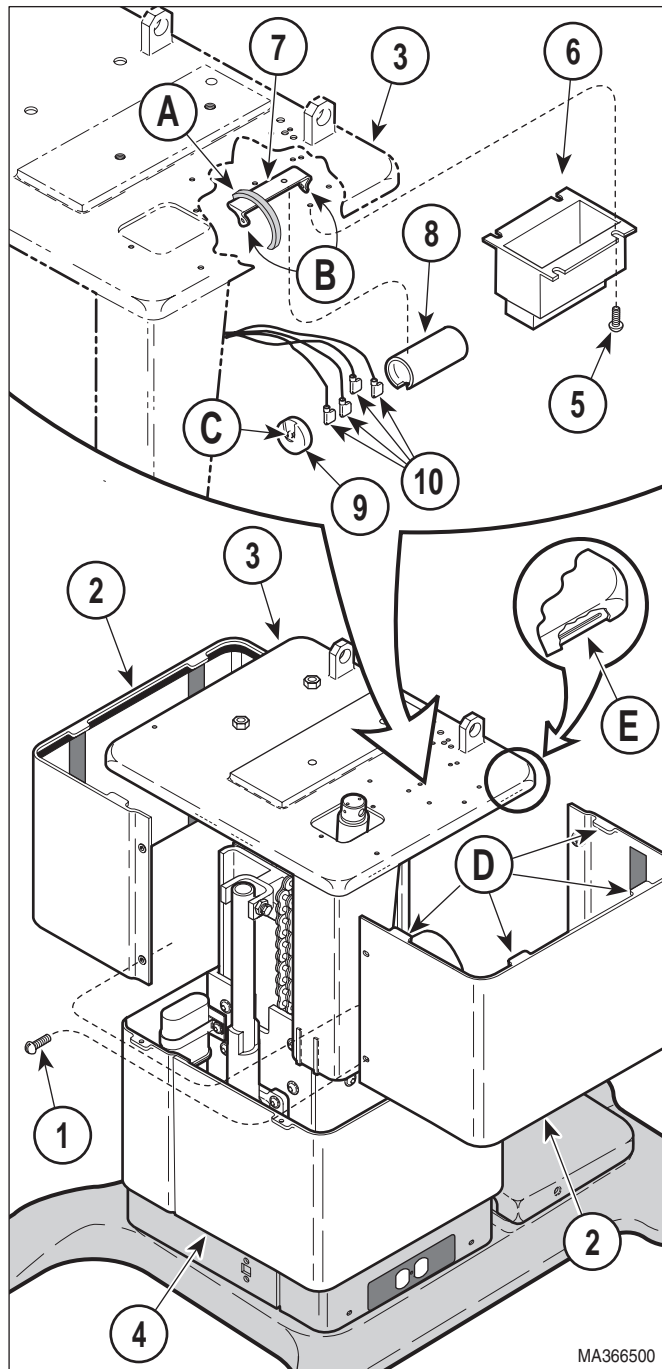

Figure 4-8. Tilt Capacitor Removal / Installation
- (2) Unplug table power cord from outlet receptacle.
- (3) Remove four screws (1, Figure 4-8) and R.H. and L.H. outer shrouds (2) from column adapter weldment (3).
- (4) Lower middle outer shroud assembly (4) down out of way.
- (5) Remove two screws (5) and connection cover (6) from column adapter weldment (3).
- (6) Cut cable tie (A) securing wire harnesses to capacitor mounting bracket (7).
- (7) Using screwdriver, pry tab (B) of capacitor mounting bracket (7) outward; then remove tilt capacitor (8) from capacitor mounting bracket.
- (8) Remove cap (9) from tilt capacitor (8).